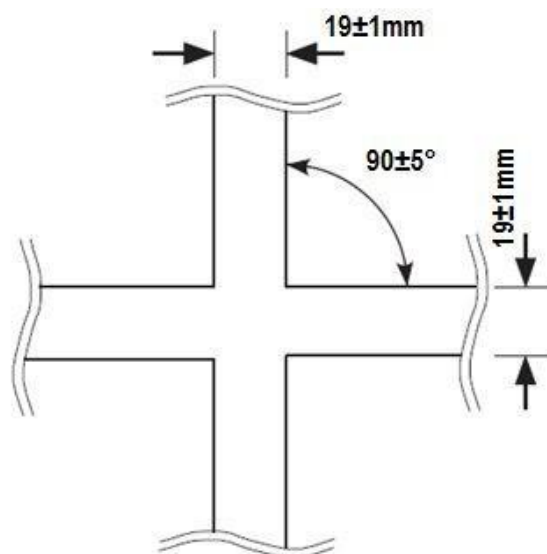

Figure 1: intersection angle and line thickness.
4.6 When there is an intersection, the intersection angle of the lines will be $90 \pm 5^\circ$ (see figure 1). The parts of the lines 250 mm before and after the intersection will be straight.